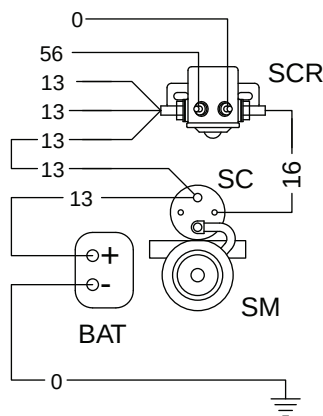

Figure 6. Starter Contactor Relay
11. Locate the Starter Contactor Relay (SCR), on the back of the control panel (see Figure 6).